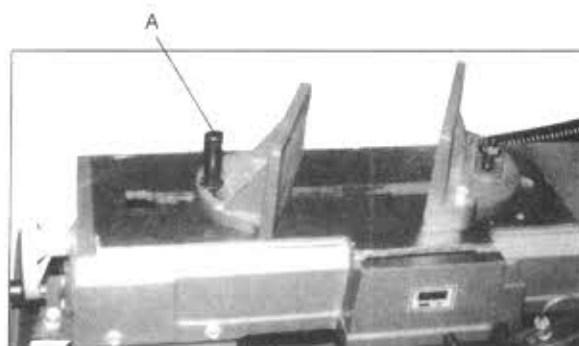

Fig.8
2. Position vise and re-install as pictured in Fig. 8. Pay particular attention to bolt hole location.
4. Adjust movable vise parallel to fixed vise by loosening bolt (A, Fig. 8), adjusting to parallel, and tightening bolt.